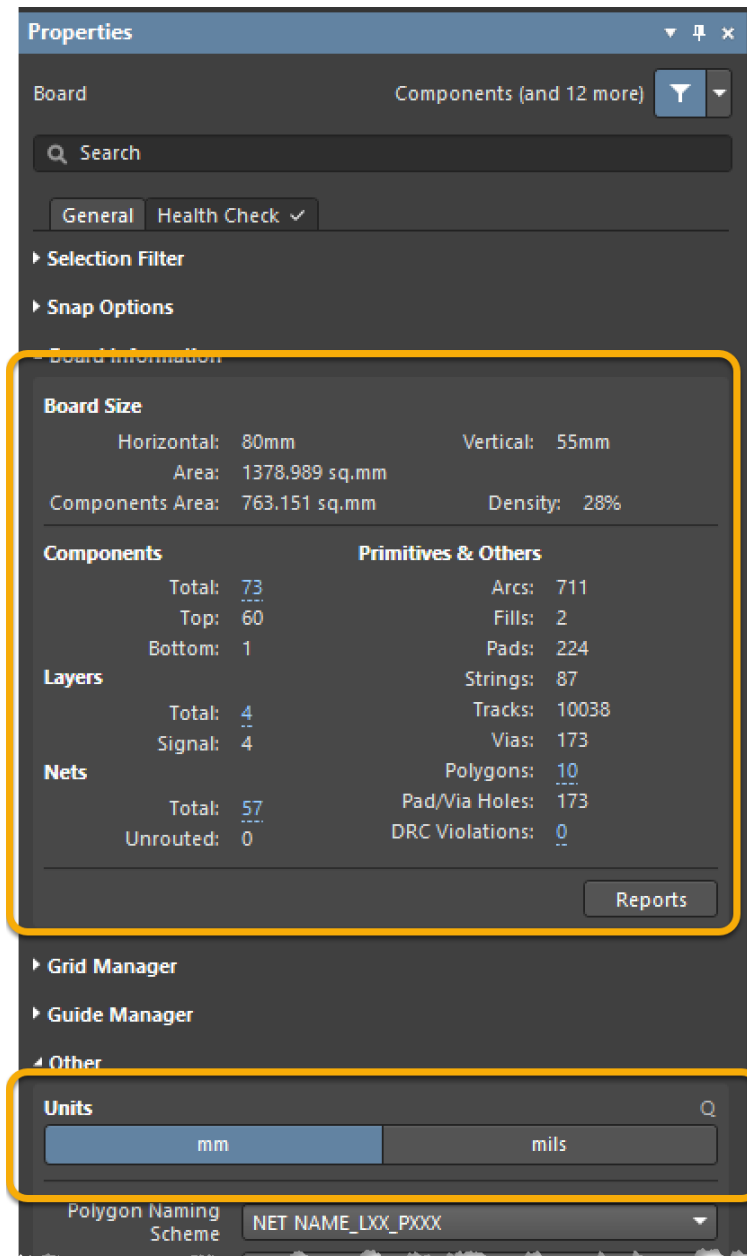

Figure 13. Properties Panel with Board Information and Units
36. The Board information section gives you an overview over your PCB and the option to generate **Reports**, as seen in Figure 13.
37. You can change between metric and imperial Unit by clicking on **mm** or **mils** button in the *Properties* panel, see Figure 13, or alternatively hit **Q** on the keyboard to change between the units in the active PCB document.